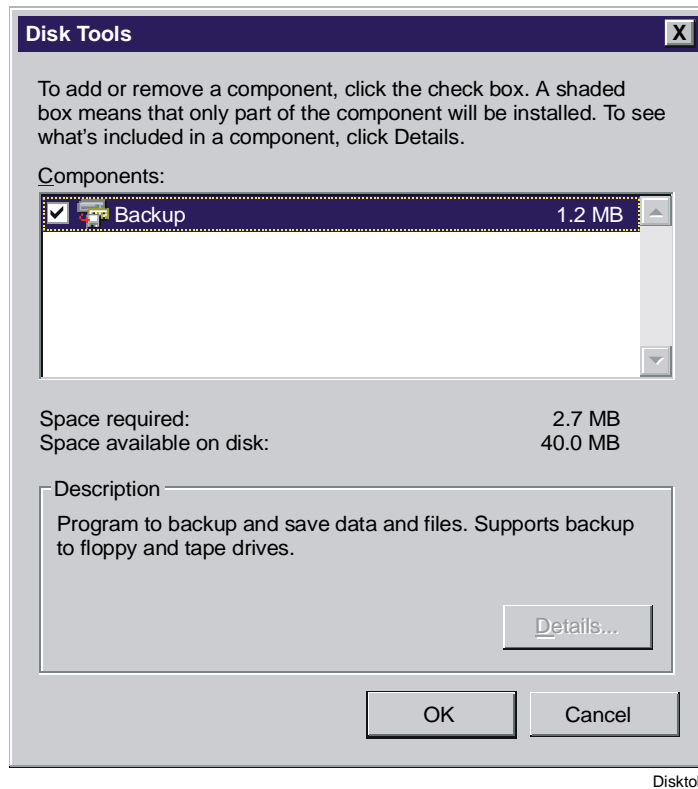

Figure 28: Disk Tools Dialog Box with Backup Selected
5. Click the check box next to Disk Tools and click the Details button to display the Disk Tools dialog box (Figure 28).